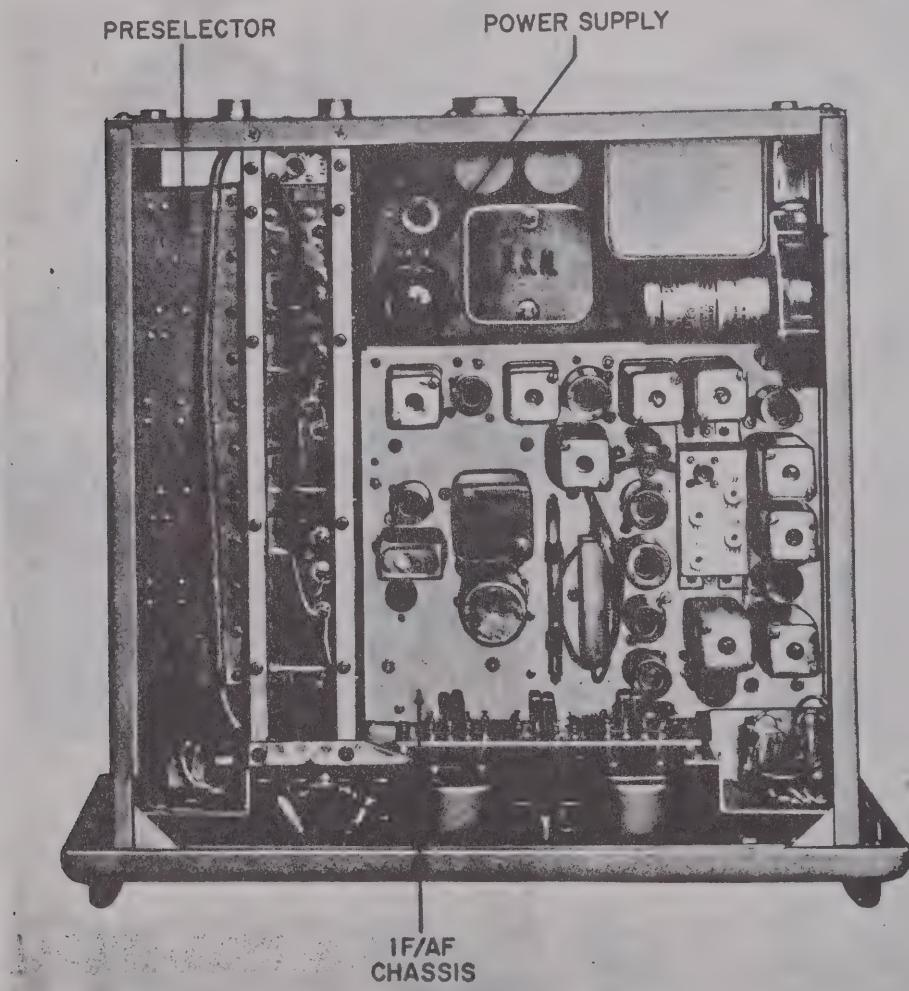

Figure 1-4. Radio Receiver R-482/URR-35, Identification of Major Subassemblies
b. FRONT PANEL AND CHASSIS FRAME ASSEMBLY.—An aluminum frame, attached to the front panel, mounts the preselector, IF/AF and power supply chassis to form a complete chassis assembly; see figure 1-4. The panel is finished in a gray enamel, which blends with the color of the cabinet and is fitted with handles to permit withdrawal of the panel-
c. PRESELECTOR SECTION. (See figures 1-4, 2-2 and 2-3.)—The preselector section is mounted along the left side of the chassis frame, and comprises all parts of the r-f amplifier-converter and oscillator-multiplier sections. The r-f amplifier section is above the oscillator-multiplier section, and each consists of an aluminum casting with removable covers. The two r-f amplifier stages and the mixer, or first detector, are mounted in the r-f amplifier-converter section. The basic oscillator, two frequency-doubler stages and a frequency-tripler stage are mounted in the oscillator-multiplier section. Partitions in the castings provide r-f shielding between stages.
e. IF/AF SECTION. — The IF/AF section of the chassis is shown in figure 1-4. It is located on the right-hand side of the chassis frame, and mounts the second mixer and oscillator, the i-f stages, the a-f detector, the automatic-gain-control (AGC) circuit, the silencer circuit, the noise-limiter circuit, and the three stages of audio amplification.
f. POWER SUPPLY SECTION. — The power supply section of the chassis, shown in figure 1-4, is mounted